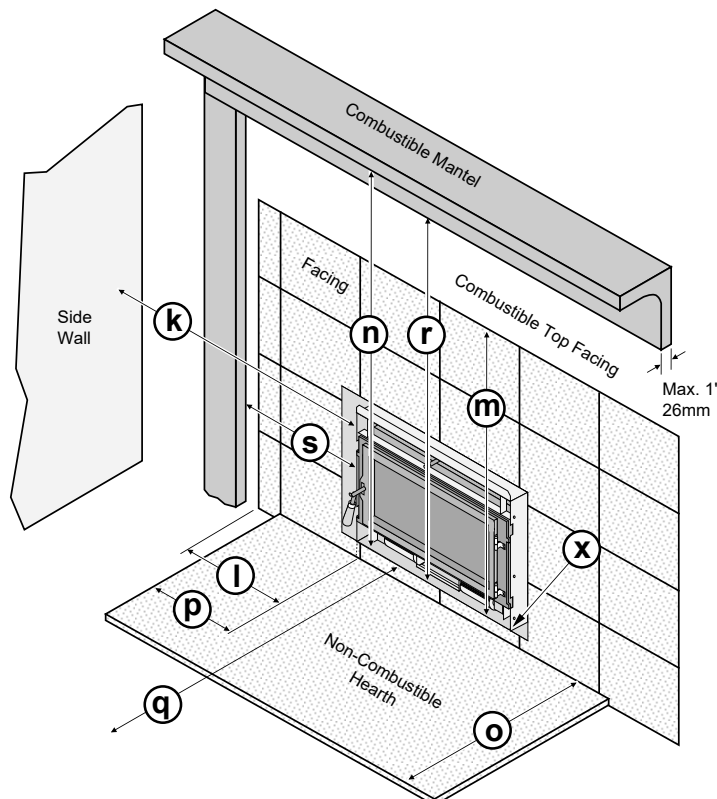

Figure 3
- The insert must be placed so that no combustibles are within, or can swing within (e.g. drapes, doors), 36" (915mm) of the front of the insert (Figure 3 "q").
- The minimum clearances, facing, and hearth requirements in Figure 3 must be met.